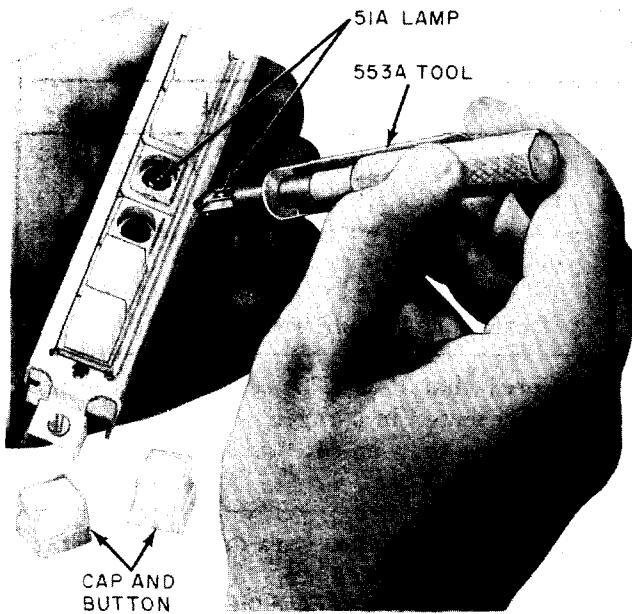

Fig. 1—Removing Lamp From 647-Type Key
3.03 Refer to Table B and Fig. 1 and 2 for the most common maintenance information on the 647-type keys.
3.06 To replace a button lamp, the collar must be removed before the button may be removed to gain access to the lamp. Use a 553A tool to remove the lamp (Fig. 1).